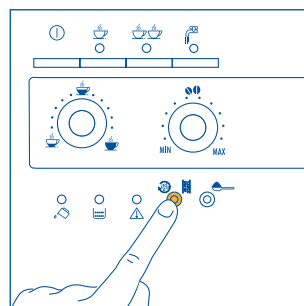

Fig. 14
1) If, when the machine has just been turned on, a short cup of coffee is required (less than 60cc), use the hot rinsing water to pre-heat the cups (see the suggestion in par. 4.3, point 5). 1) If, when the machine has just been turned on, a short cup of coffee is required (less than 60cc), use the hot rinsing water to pre-heat the cups (see the suggestion in par. 4.3, point 5). If, on the other hand, more than 2/3 minutes have elapsed since the last coffee was made, before preparing **another coffee the infuser must be pre-heated, pressing the ☕☕ button (Fig. 14).**